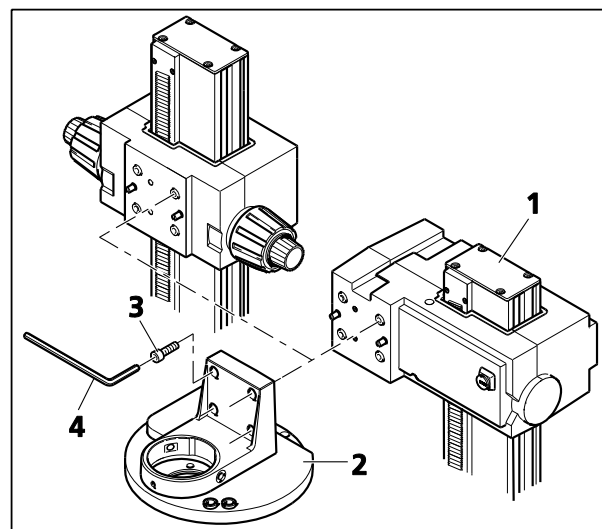

Fig. 23 Mounting the objective nosepiece to the column
- Attach the objective nosepiece (Fig. 23/2) to the focusing drive of the column used (Fig. 23/1), let the two locating screws click into place and keep hold of the unit until the first screw has been tightened.
- Screw down the four Allen screws (SW 5). Use the long leg of the offset Allen key (Fig. 23/4) to screw the screws (Fig. 23/3) in, and the short leg to fasten them hand-tight.